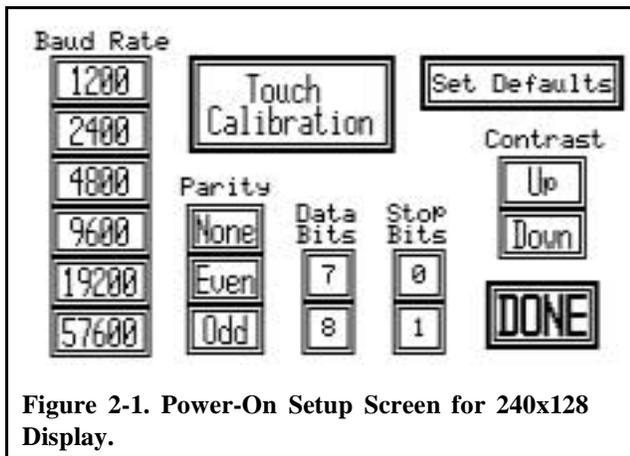

Figure 2-1. Power-On Setup Screen for 240x128 Display.
- Press your finger onto and hold down the upper left corner of the touch screen area on the screen legend, and apply power to the terminal. Hold this area down until the power-on setup screen appears on the display (see Figures 2-1 and 2-2), then release your finger.